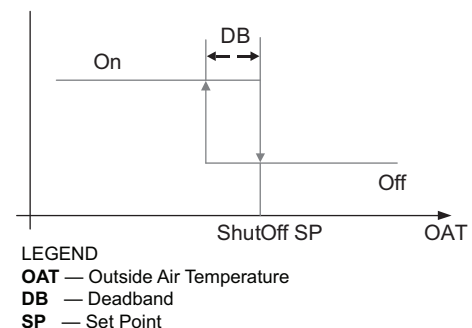

Fig. 66 — Hysteresis Settings
Hysteresis setting (DB) defaults to 2°F (–17°C). See Fig. 66.